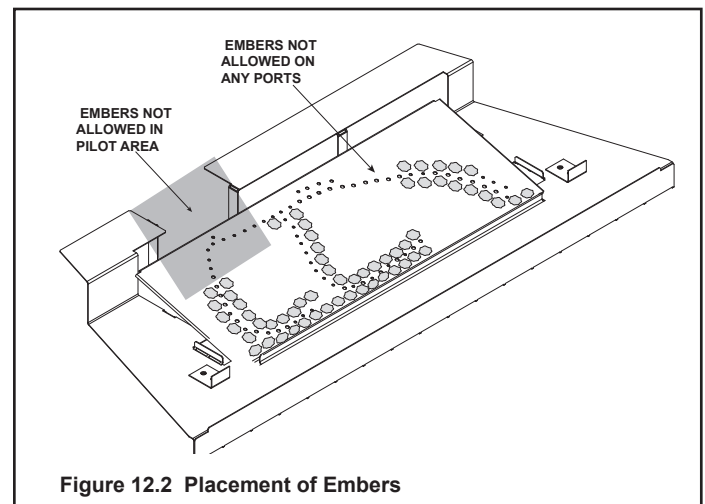

Figure 12.2 Placement of Embers
- Place 3/8 in. (10 mm) size pieces of Glowing Embers® just in front of the port trail, but not on or in between the ports (see Figure 12.2). Care should be taken so that the ports are not covered. Failure to follow this procedure will likely cause lighting and sooting problems.